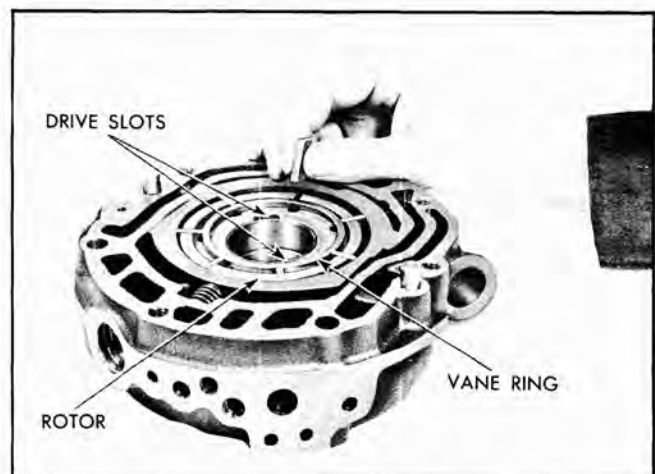

Fig. 115 Installing Vanes in Rotor
7. Install rotor in pump cavity with drive slots up (Fig. 115).
8. Install seven vanes in rotor with polished areas toward vane rings (Fig. 115).